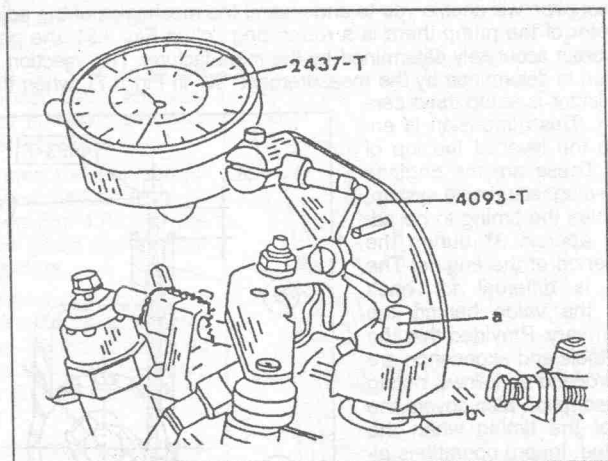

Fig. 1.82. — The special tools fitted to the injection pump. Note where the pin "a" and the tube "b" are located.
- Remove the plug from the injection pump (to the left of the large angled hose) and insert the timing pin of tool 4093-T, shown in Fig. 1.71. The pin must be against the tube "b". If this is not the case, rotate the crankshaft in a clockwise direction (seen from the drive end). These operations have already been carried out, if the injection pump is being refitted. If the injection timing is being checked, fit the tools shown in Fig. 1.82 and set the dial gauge to "Zero", noting the position of the small needle.